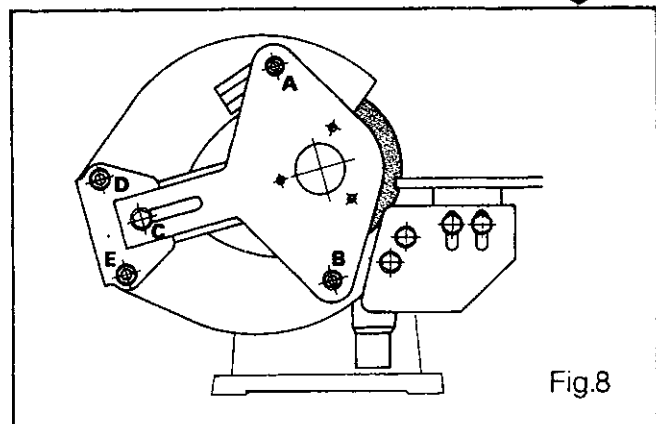

Fig.8
- Figure 8 shows the maximum adjustment of wheel covers, the minimum size of grinding wheels.